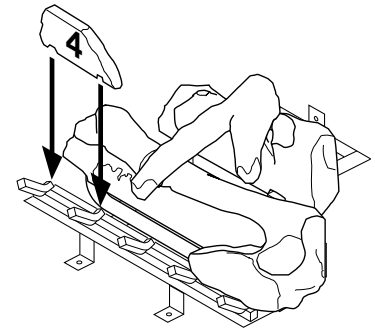

Figure 51 - Installing Log No. 4
4. Place log #4 (small log) onto the front left part of the grate making sure the notches fit over the prong of the grate. See Figure 51.